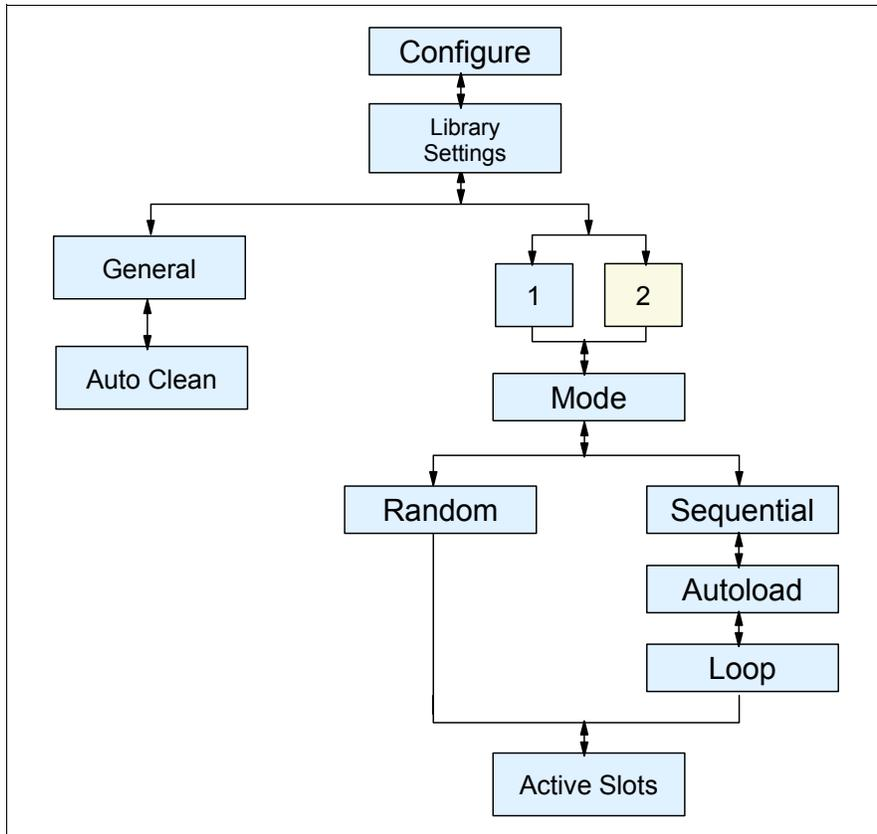

Figure 6-10 Library Mode menu for the IBM TS3200 Tape Library
Figure 6-10 on page 158 shows the Library Mode menu and the process flow for configuring the TS3200 with two logical libraries.
- ▶ In *Sequential* mode, the library's firmware predefines the selection of the cartridges. After initialization, the firmware causes the library to select the first available cartridge found (counting from 1) for loading into the drive. In Figure 6-10, you find the tree structure of the Library mode menu.